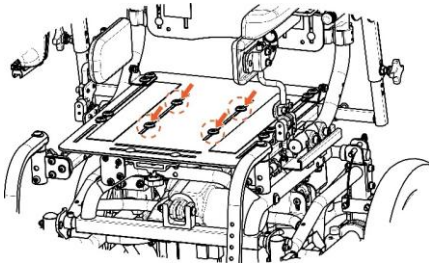
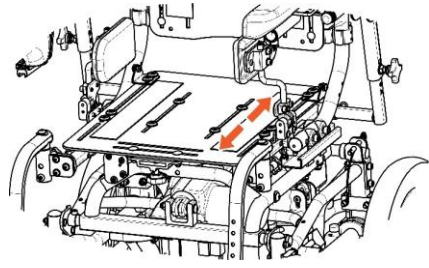

Figure 9.20
Figure 9.21
- Step 4. Loosen the four bolts on the seat plate (Figure 9.20) and slide the seat plate along the rail to the suitable seat depth (Figure 9.21). Then re-tighten the four bolts.